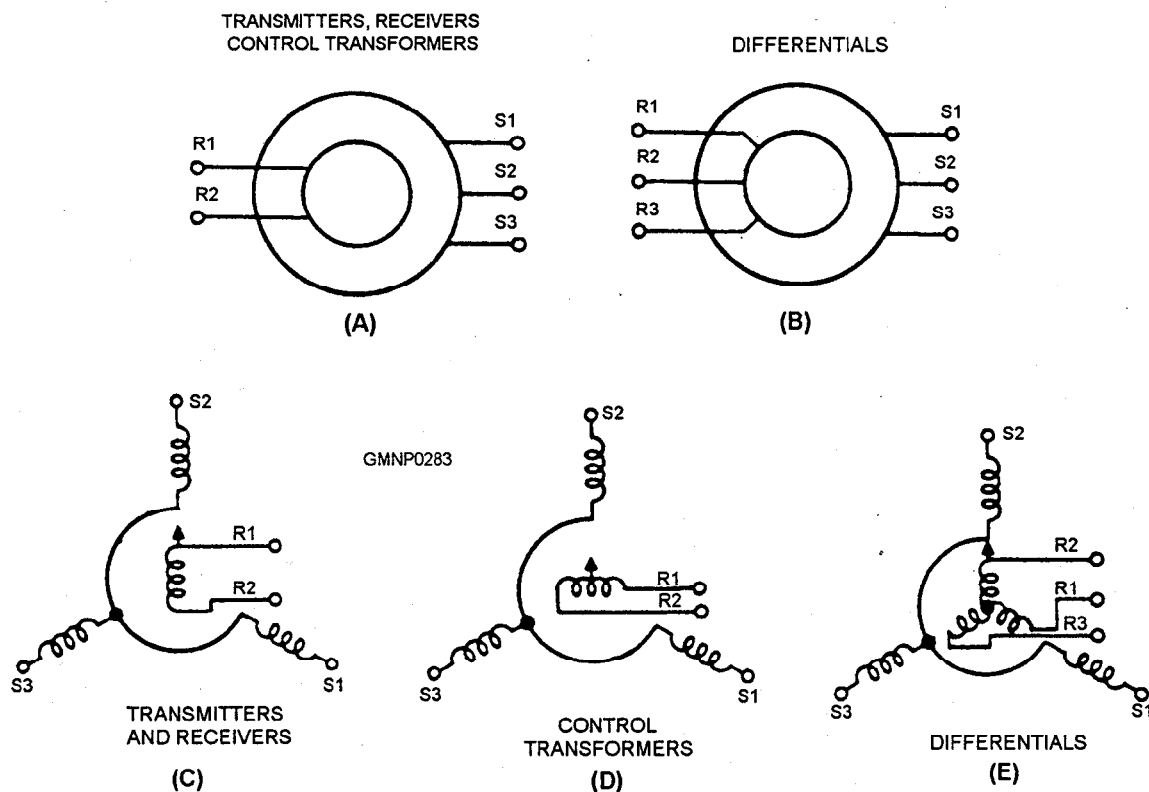

Figure 5-20.—Schematic symbols for synchros.
symbols shown in figure 5-20. The symbols shown in parts (A) and (B) are used when it is necessary to show only the external connections to a synchro, while those shown in parts (C), (D), and (E) are used when it is important to see the positional relationship between rotor and stator. The small arrows on the rotors in parts (C), (D), and (E) indicate angular displacement of the rotor; in this illustration the displacement is zero.